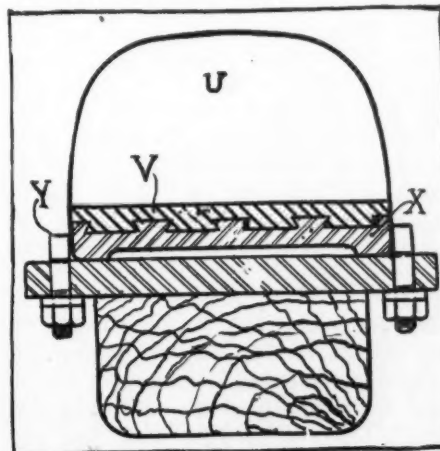

FIG. 19—GOODRICH TRUCK TIRE
**Goodrich Truck Tire**—The B. F. Goodrich Co. has brought out a wireless motor truck tire manufactured in either single or dual type, the single type being illustrated Fig. 19. This tire consists of three factors; a special steel base X, with dove-tailed grooves on the top surface, a hard rubber base V which dove-tails into the steel part and a soft rubber tread U vulcanized on the hard rubber sub-base. The tire is held in place on the felloe of the band by means of lugs Y on either side of the steel base, and a key on the felloe band which fits into a key seat on the steel